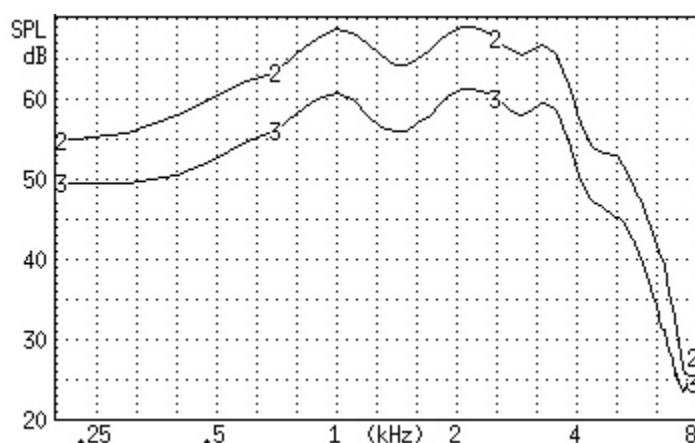

Figure 6.5.4—Testing noise suppression of a digital hearing aid. REAR 2 was tested using Digital Speech. REAR 3 was tested using the Composite Signal.
9. Press [START] to start the measurement. After the measurement has stabilized, press [STOP] to stop the measurement. Figure 6.5.4 illustrates an example of a digital hearing aid with noise suppression. Curve 2 shows the response of the aid to the Digital Speech curve, and Curve 3 shows the response of the aid to the Composite signal. .